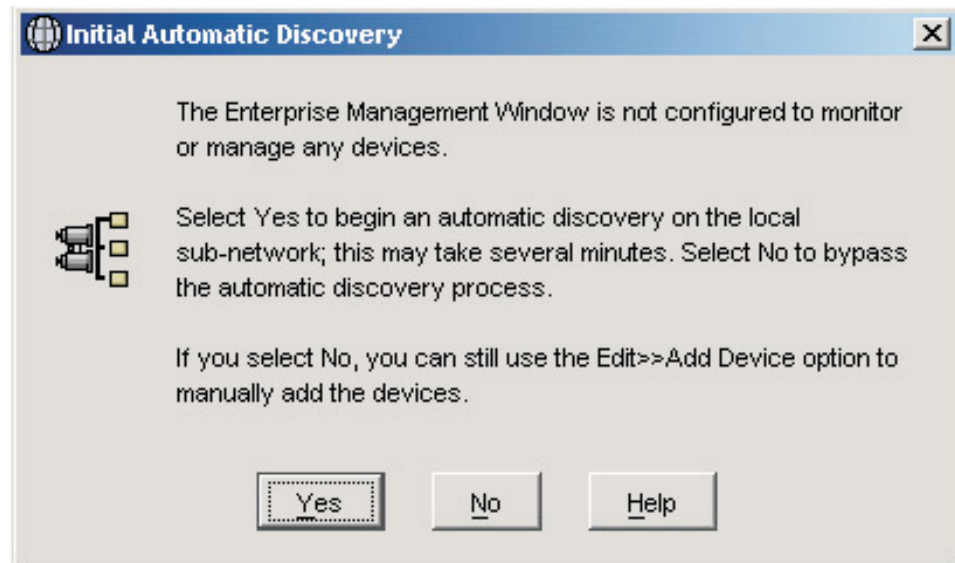

Figure 21. Confirm Initial Automatic Discovery window
2. Click **IBM DS4000 Storage Manager 9 Client**. The client software starts and displays the Enterprise Management window and the Confirm Initial Automatic Discovery window as illustrated in Figure 21.